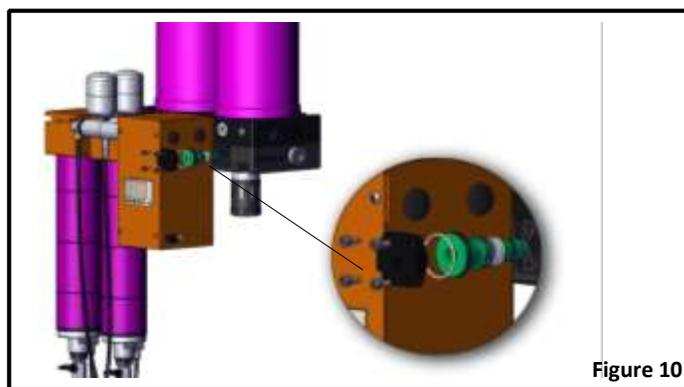

Figure 10
3. Using a 4mm hex key wrench, remove the four socket head cap screws holding the piston cover in place; remove piston cover for access to piston. *Figure 10*
4. Using a 1/2-13 bolt, remove the piston; be sure to remove the piston spring. *Figure 10*